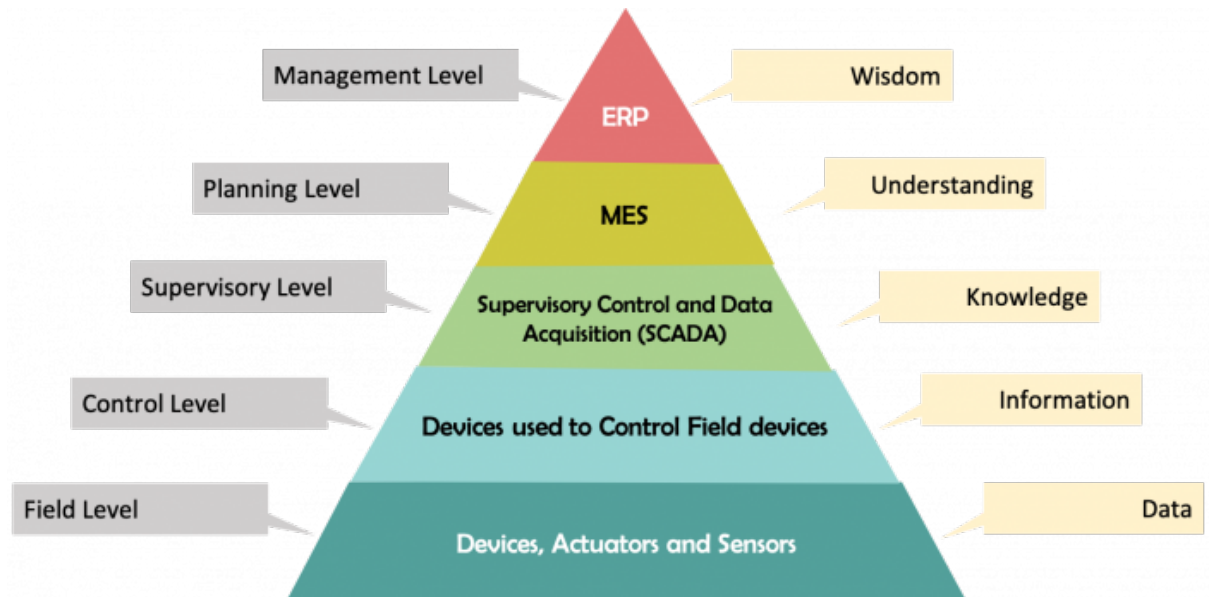

Figure 2: Automation Pyramid
Here to cover a large and mixed audience let me touch on a few fundamentals quickly. Figure 2 presents the information in terms of the Automation Pyramid.¹⁾ Here is a picture of how industry automation works and the different levels of automation. Any industry starts with the field level and ends with the business logic. Now let us have a quick walk through on every level.
- Using predictive models at all levels of the automation pyramid (see Figure 2)